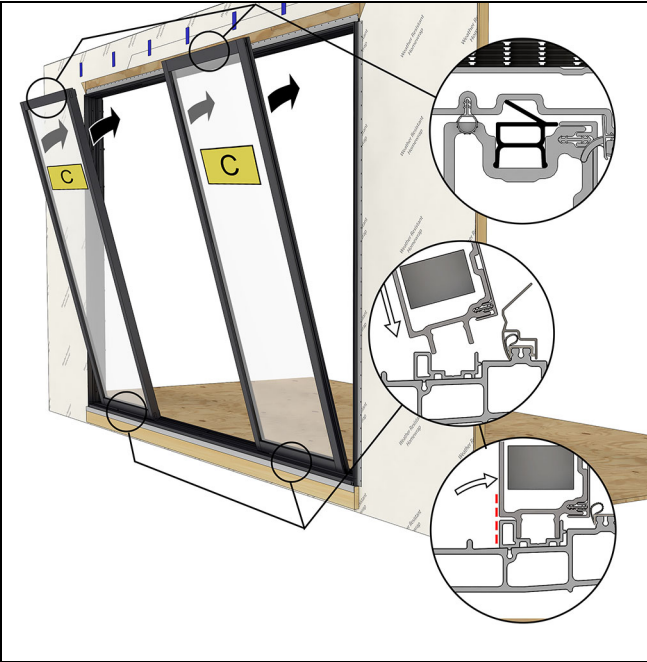

Figure 116
1. Install both your (C) stationary panels from the exterior. Set the panels on the exterior track a few inches from the jamb and tip into place. Press the top in to engage the panel retainers in the frame. When fully seated you will hear an audible, "click". See Figure 116.